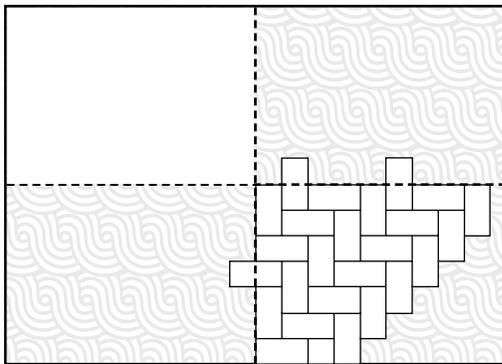

Fig. 19 - Adjust the chalkline 6" in either direction if necessary to achieve a larger border tile. After completing dry layout spread adhesive in 3 quadrants.
**Tip:** Spread adhesive in 3 quadrants (starting quadrant and adjacent quadrants) when installing a herringbone layout (Fig. 19).